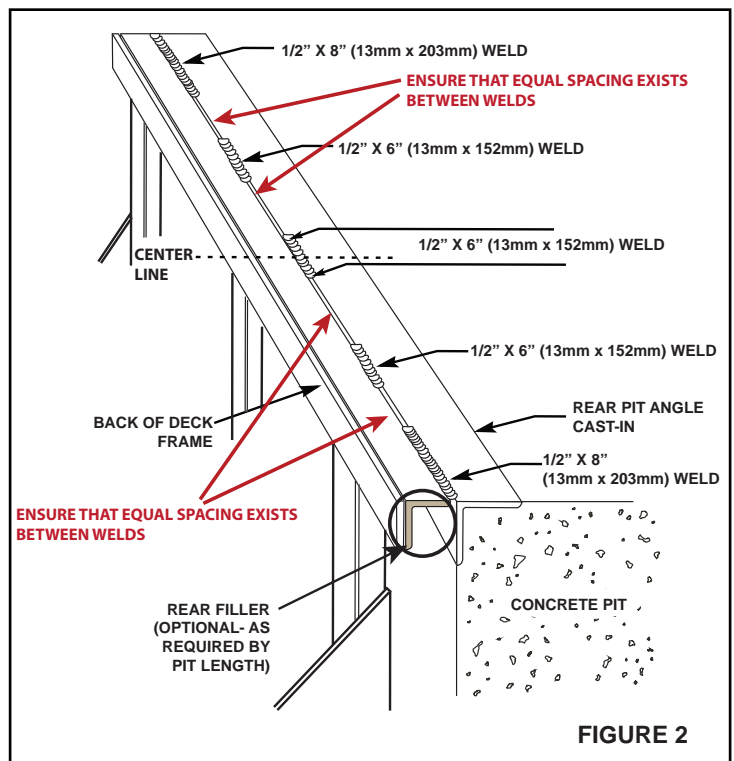

FIGURE 2
18. Weld the rear frame to the pit's rear curb angle. (See Figure 2).